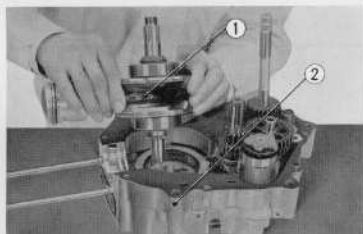

Fig. 3.81 Removing the crankshaft
5. The crankshaft assembly ① can be removed from the left crankcase. ② (Fig. 3.81)